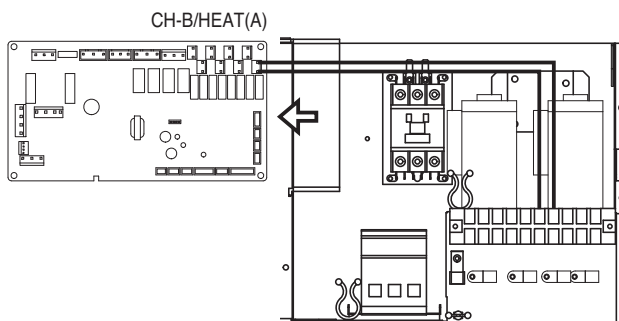

Fig. 3
Step 6. Connect the Main PCB to terminal block with wire(Part 4) like figure 3.